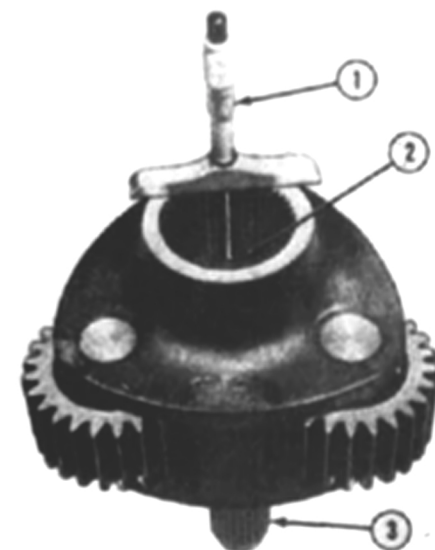

Fig. 150—With planetary drive shaft supporting the retainer, use a depth micrometer to obtain hub to retainer dimension as shown. Refer to text.
record the reading. Refer to Fig. 150 and measure the distance from face of hub to retainer, using the planetary drive shaft (3) to hold retainer (2) in place. Select shims within 0.002 inch of the difference between first and last reading. This will be the correct shim pack to be installed. Shims of 0.007, 0.012 and 0.0299 inch thicknesses are available in a rear axle shim package.